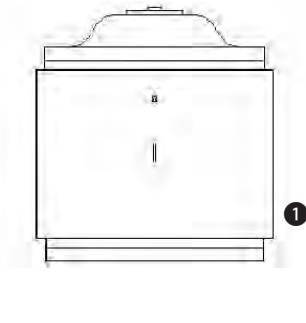

Figure 10-38: The drive block section, after several grip edits, looks a little like a cookie jar.
12. Pick the grip at the midpoint of the bottom line. Right-click and choose Move from the shortcut menu. At the Specify move point or [Base point/Copy/Undo/eXit]: prompt, type **@0,-3** ↵. The model should look like Figure 10-38.
13. Press Esc to remove all grips. Define a crossing window by picking first at ❶, and then at ❷ (see Figure 10-38).